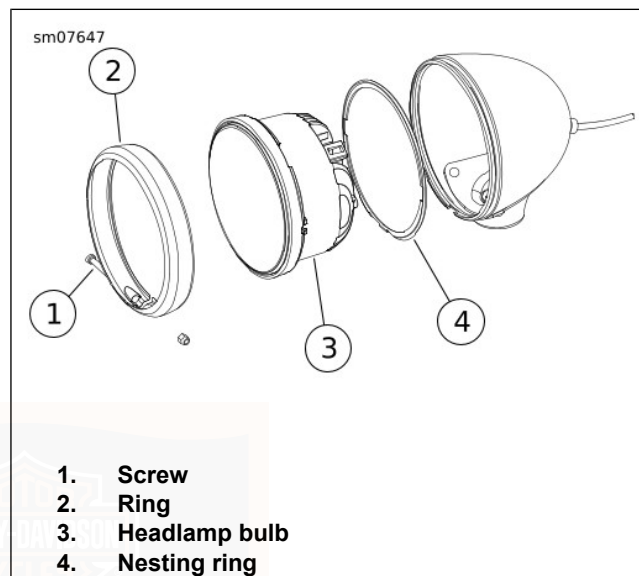

Figure 100. Headlamp Assembly
1. See Figure 100. Remove screw (1). Remove trim ring (2) from lamp housing.
1. See Figure 100. Place nesting ring (4) on back of **new** bulb (3) with the index tab facing away from bulb.